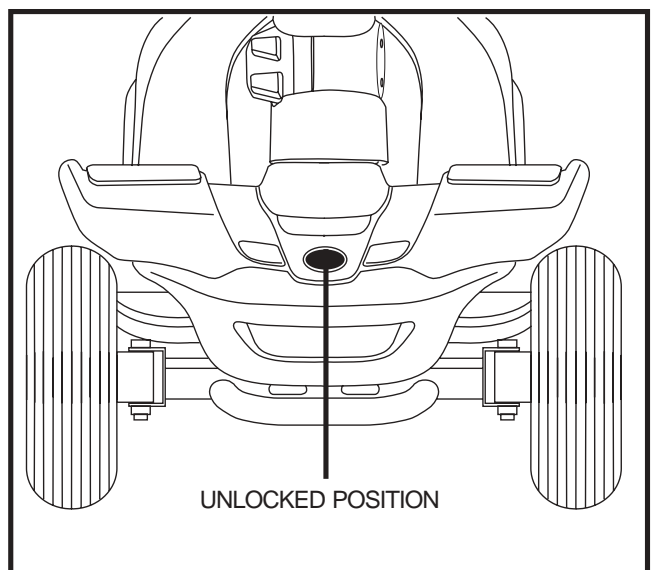

Figure 21A. Tiller Lock Knob (Unlocked)
10. Unlock the front wheel by turning the tiller lock knob 90° anticlockwise. See figure 21A.